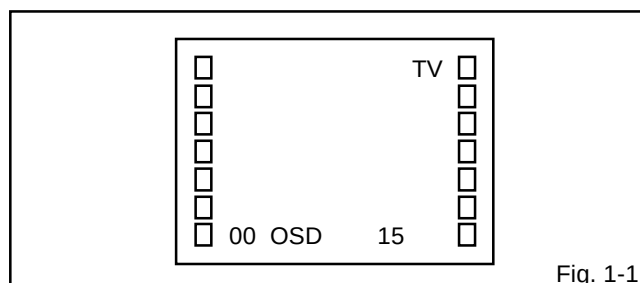

Fig. 1-1
Press the VOL. DOWN button on the set and the Channel button (9) on the remote control for more than 1 second to appear the adjustment mode on the screen as shown in **Fig. 1-1**.
3. Activate the adjustment mode display of **Fig. 1-1** and press the channel button (02) on the remote control to select "RF. AGC".
3. Activate the adjustment mode display of **Fig. 1-1** and press the channel button (01) on the remote control to select "CUT OFF".
4. Activate the adjustment mode display of **Fig. 1-1** and press the channel button (13) on the remote control to select "R. BIAS".